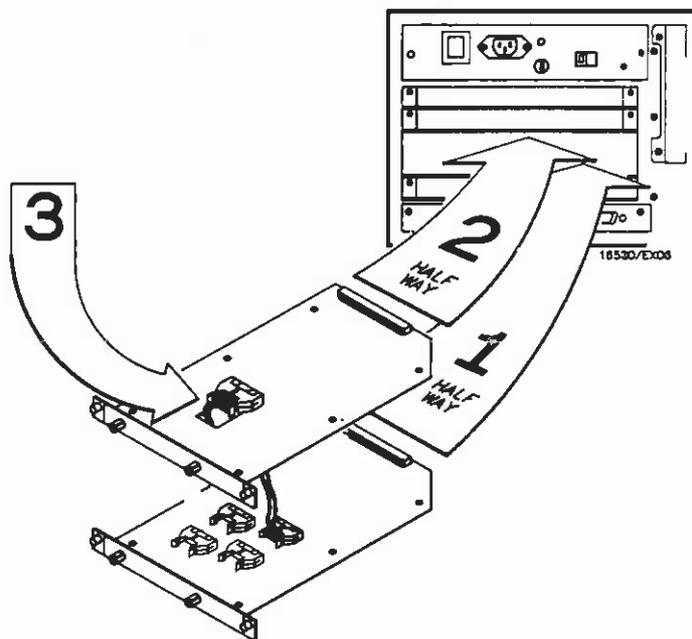

Figure A-5. Installation Summary
- k. Plug in other end of cable to connector on acquisition card. See figure A-5.